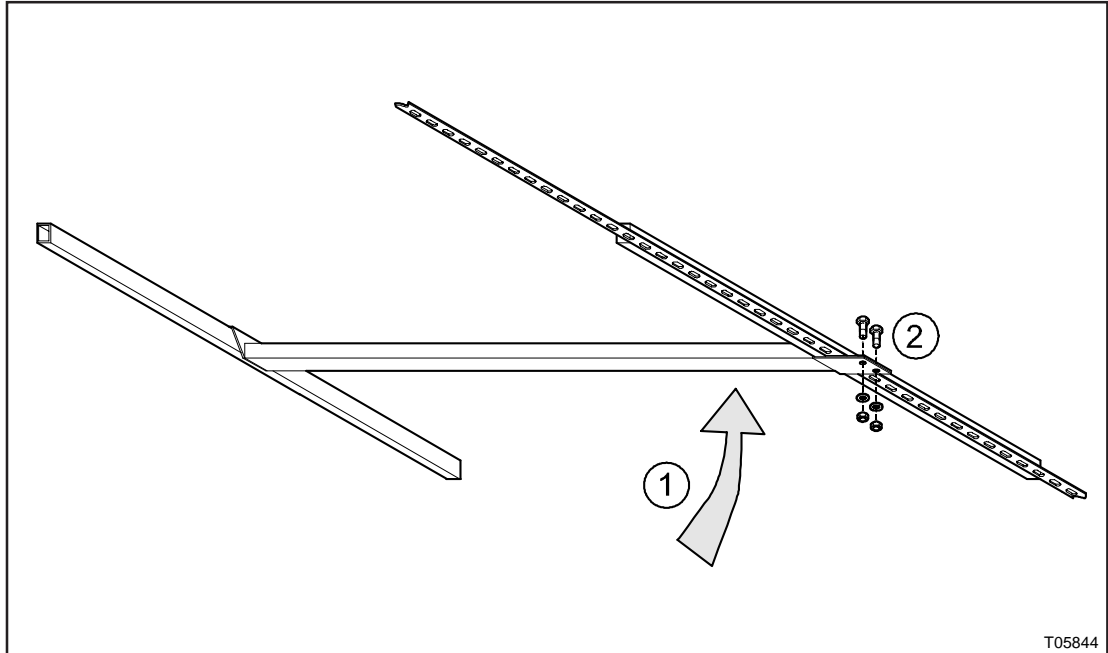

Figure 7 : Fuel tank compartment frame reinforcement brace installation, sequence II
7. Push the brace upwards, until the slots in the goose neck match the slots in the tube clamp mounting truss (see 1, Figure 7). Fit the two M6 bolts, nuts and washers (see 2, Figure 7). Tighten to a torque of 7 to 11 ft.lbf (9 to 15 Nm).